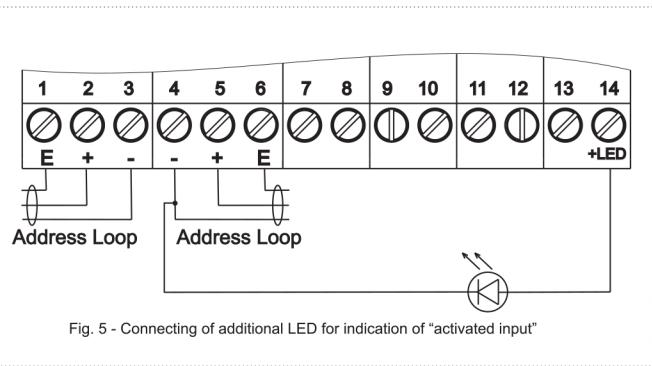

Fig. 5 - Connecting of additional LED for indication of "activated input"
- Terminal 14 - Positive terminal for power supply of additional LED, for activated input (fig.5). The minus of the LED connected to terminals 3 or 4 ("- " of addressable loop).